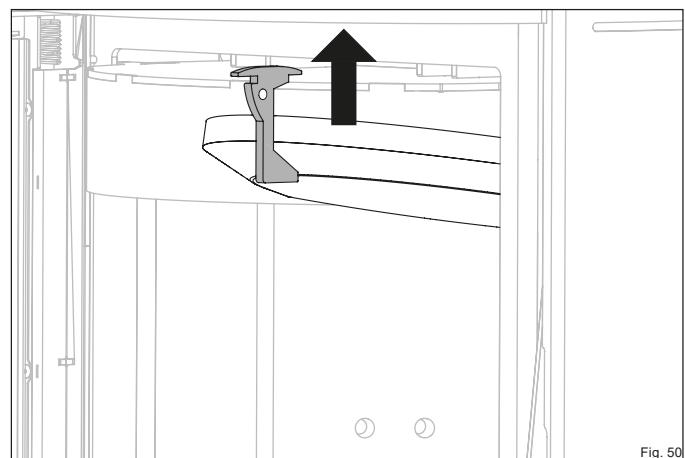

Fig. 50
- Slide the firebrick retainer upward (Fig. 50).